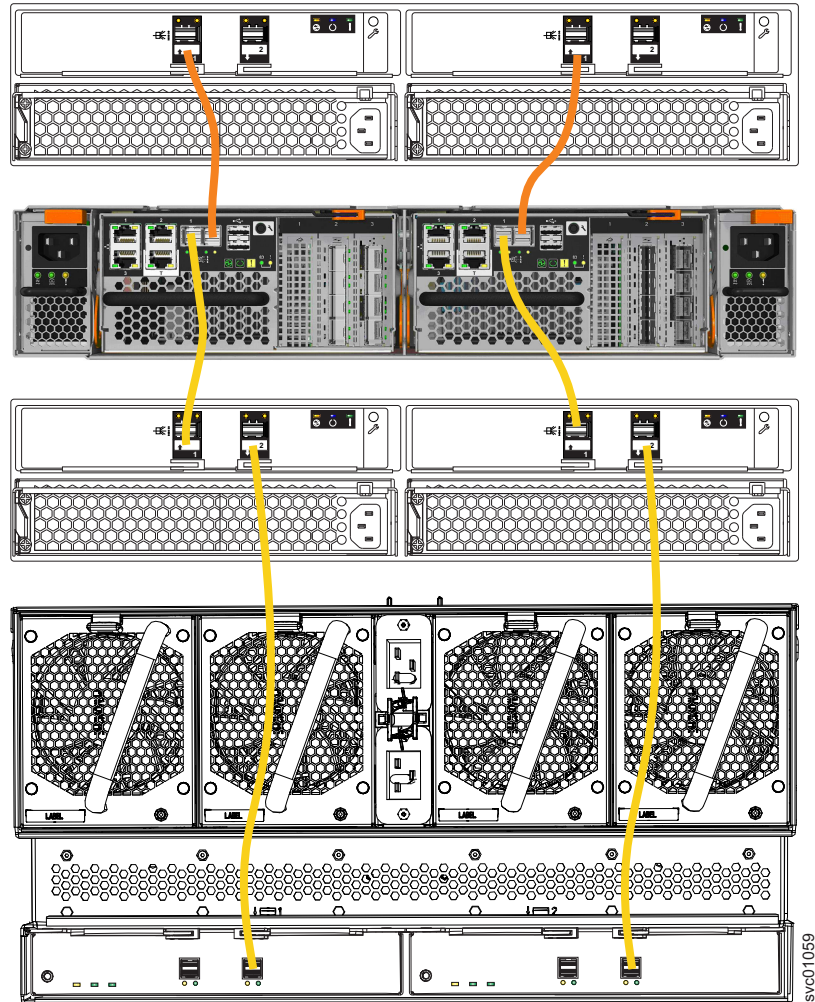

Figure 115. Connecting the SAS cables
1. Install the cables, as shown in Figure 115 on page 122.
Note: Figure 115 on page 122 shows the cable connections between the SAS enclosures and the Storwize V7000 Gen2 control enclosure. It does not imply or represent the precise racking order for the enclosures in a rack. However, due to its size and weight, always place the 2076-92F enclosure near the bottom of the rack.
As Figure 115 shows, you can combine 2145-24F, 2145-12F, and 2076-92F enclosures in a SAS chain. The limiting factor is the combined *chain weight* of the various components. The maximum SAS chain weight that can be attached to a node SAS port is 10: